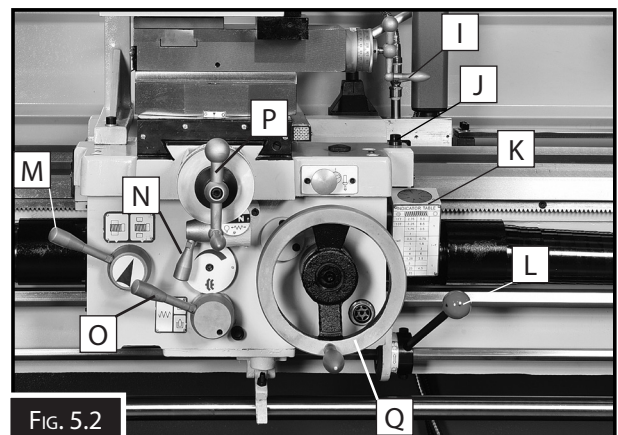

FIG. 5.2
- e. Move the spindle lever (Fig. 5.2) down to start the spindle. The top of the chuck should turn down and toward the front of the lathe.
APRON (Fig. 5.2)